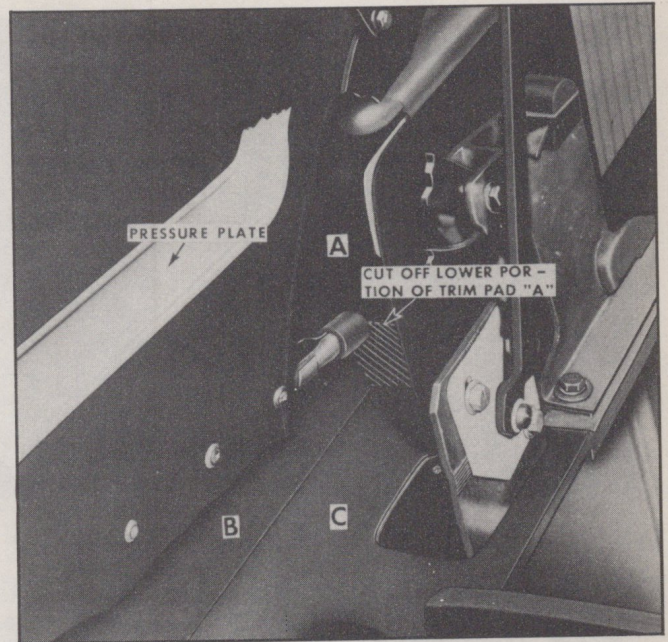

Fig. 6 Location of Trim Pad to be Removed
5. Raise the top and remove the screws and washers holding the lower edge of the top material to the long drain trough in the rear quarter area. Remove the screw at the forward end of the aluminum pressure plate and remove the plate. (See Fig. 6 for location of plate.)
8. Replace the pressure plate and, if necessary, adjust it for correct pressure by loosening and moving an adjustable plate at the rear end of the pressure plate. (Refer to Fig. 6.)
3. Cut and remove the cross hatched lower portion of trim pad "A" (Fig. 6). Remove trim pads "B" and "C" from their cemented positions (Fig. 6).